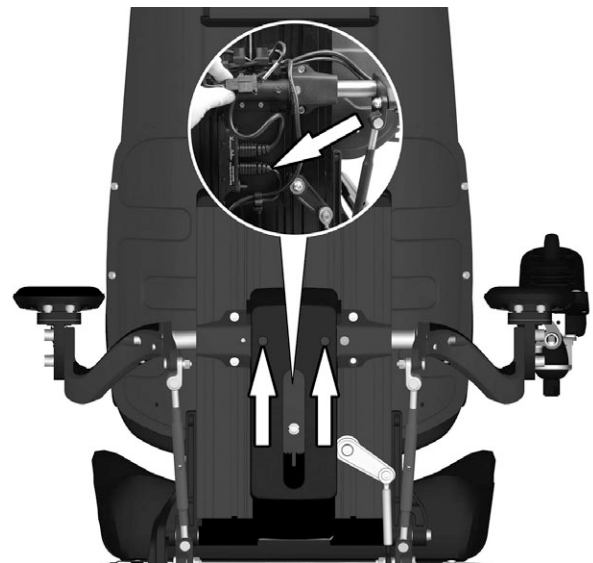

Figure 90. The contact block is located under the cover which is attached with two screws.
9. Remove the cover on the back of the back rest. It is attached with two screws. Disconnect the Rnet cable that connects the ISC Master Module to the contact block at back of the back rest. See fig. 90. Release the cable from its cable brackets on the seat frame. Make note of how the cable is assembled with consideration to subsequent assembling. See *Rnet and ICS bus cable mounting*, Page 83.